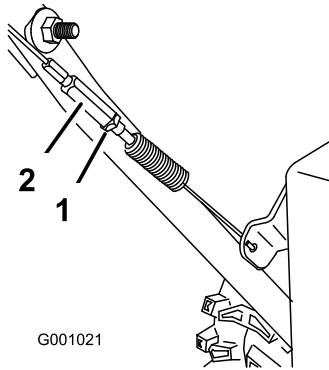

Figure 45
- Tighten the jam nut (Figure 45).